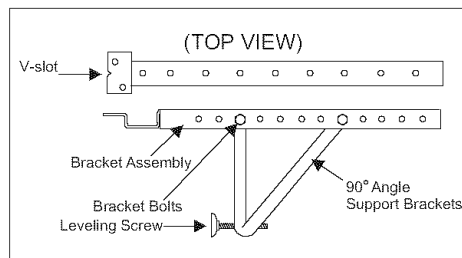
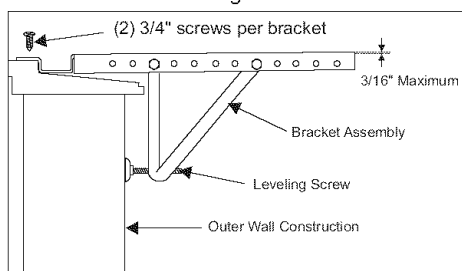
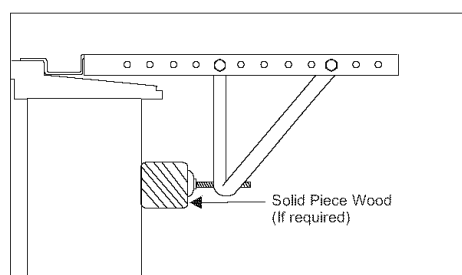

Fig. 5
Fig. 7
Fig. 8
A. Attach the **bracket assembly** to **90° angle support brackets** (Fig. 5) using (2) **1 1/2" bolts** Two bolts per bracket. Secure with the (2) **1/4" lock washers** and (2) **1/4" nuts**. **DO NOT** immediately tighten these bolts as it may be necessary to adjust the depth of the **bracket assembly**, depending on the depth of your window sill. See (Fig. 7). Install the two **leveling screws** into the 90° support brackets. Test the bracket assembly in the window before cabinet installation. If the leveling screws are distanced too far away from the wall to provide stability, it may be necessary for you to fill this area with a solid piece of wood. See (Fig. 8).
C. For proper condensation run-off it will be necessary to adjust the angle/pitch of the window brackets. This is accomplished by adjusting the distance of the leveling screw on the outer wall. The maximum angle/pitch should not exceed more than 3/16". See (Fig. 7).
Use a solid piece of wood to provide stability. This will be required when sills are extra deep. See (Fig. 8).
C. Check to make sure that the cabinet is slanted slightly downward on the outside. If necessary, re-adjust support bracket as shown in (Fig. 7).